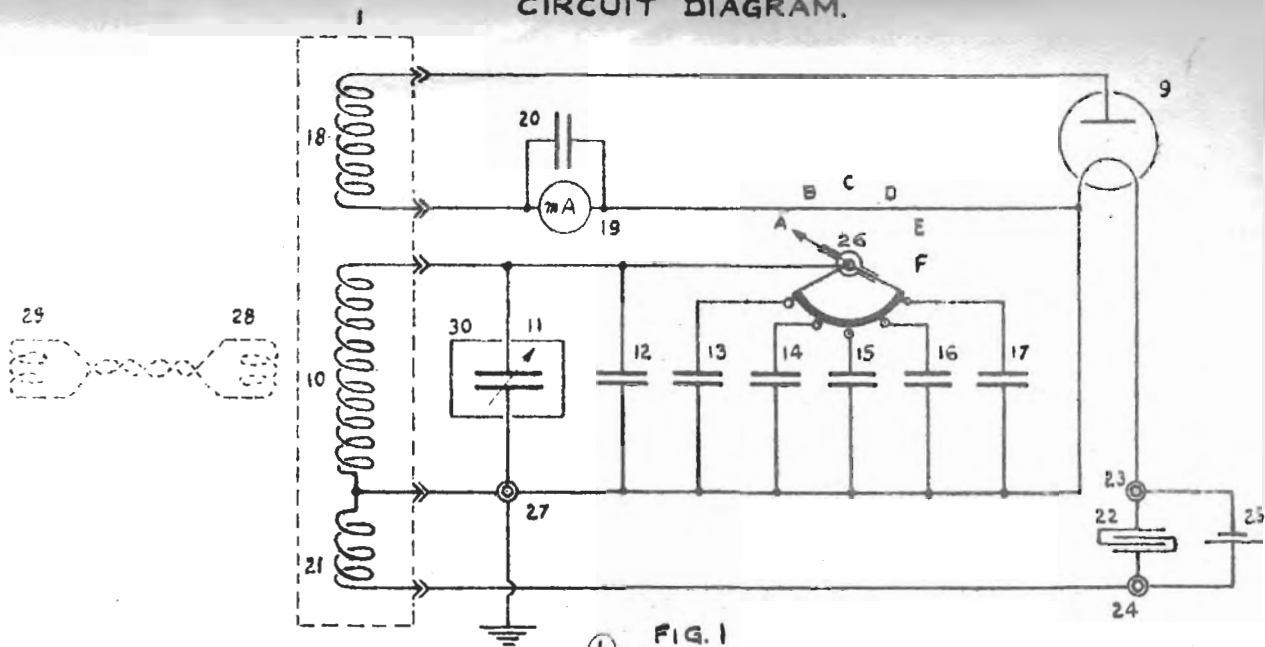

FIG. 1
4. A circuit diagram of the Wavemeter G9 is shown in Fig. 1 and photographs of the model in Figs. 2 and 3.
5. The wavemeter condenser (11) is provided with a scale fitted with a scroll slow-motion for fine tuning. The slow-motion device can be thrown out of gear by pulling outwards the graduated (0-10) knurled head (31), when the condenser can be freely adjusted by rotating the central knurled handle. To re-engage the slow-motion device the metal plate (32) carrying the slow-motion index line is pushed inwards, when a spring causes the scroll to mesh with the teeth on the edge of the circular drum carried on the central spindle.
6. The indicator used in the instrument is a small diode valve (9) and D.C. milliammeter. The filament of the valve is lit by means of a small coil (21) of one or two turns coupled to the main inductance coil (10) and connected to it at one end. H.T. voltage for the diode is supplied by means of a second coil (18) of several hundred turns also coupled to the main inductance coil (10). The D.C. milliammeter,